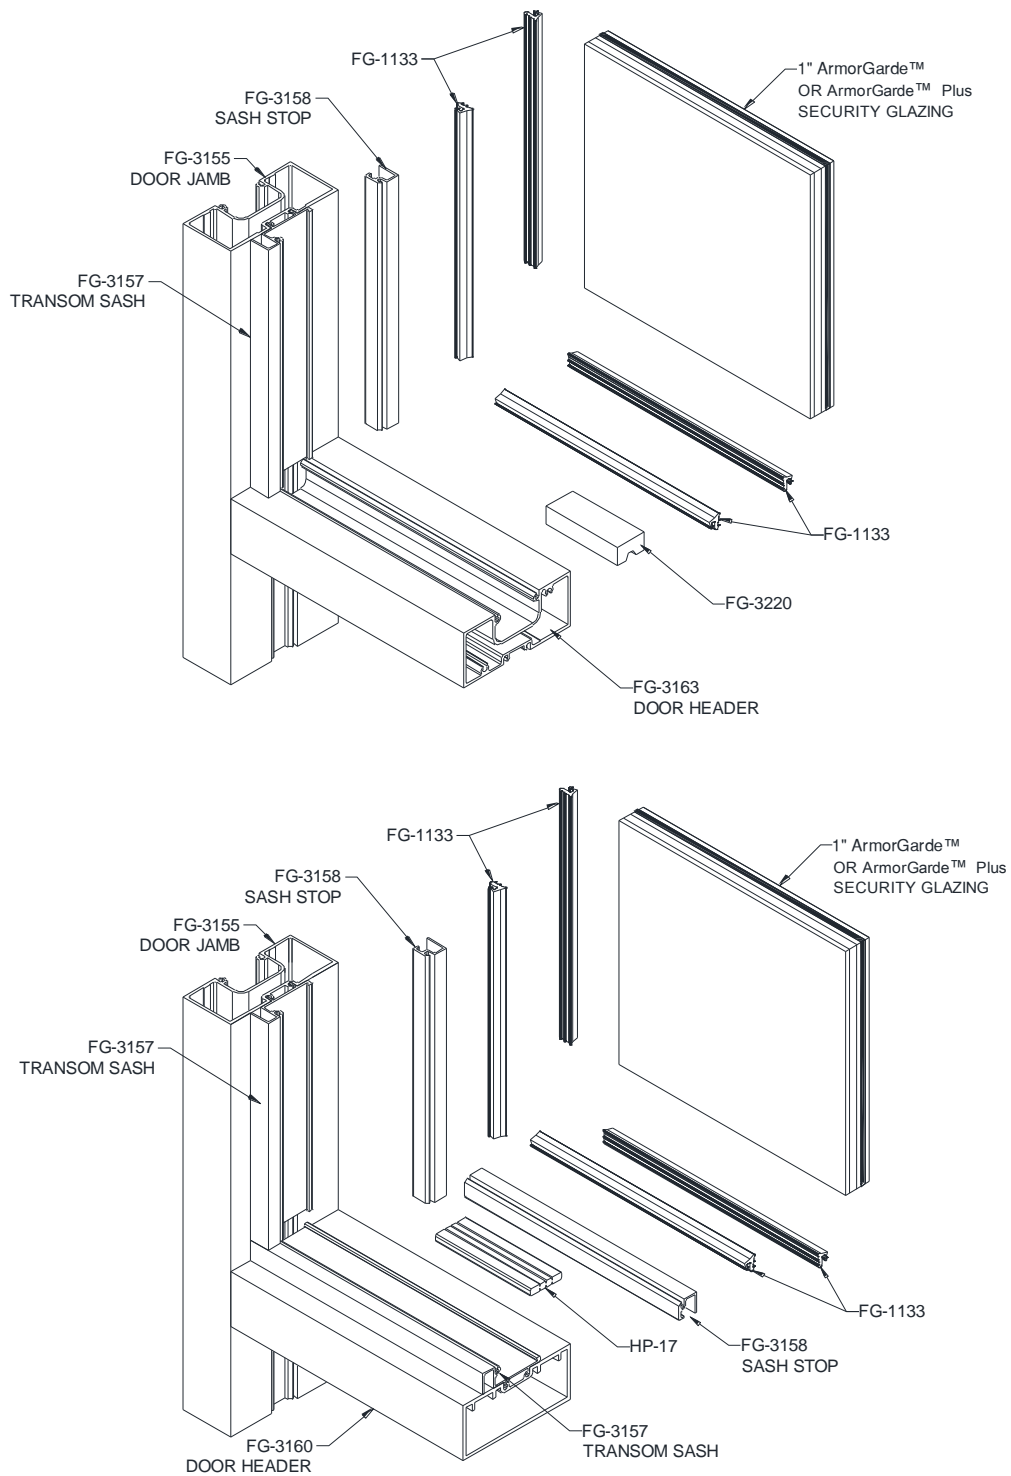

Figure 34: ArmorDefend™ Dry Glaze Assembly at Transom
- 11.2.1.7 Install **HP-17** or **FG-3220** Setting Blocks per shop drawings; depending on the glass size, Setting Blocks will be located at either 1/4 points or 1/8 points. A full Dry Glaze assembly is shown in *Figure 34*.